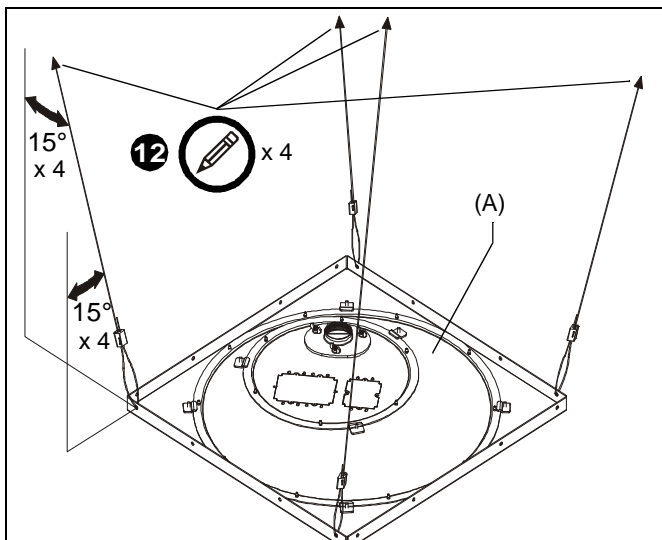

Figure 5
12. Examine ceiling structure (concrete, steel truss, or wood) above CMS445 assembly (A) to identify four support cable anchor locations. Each location should be approximately 15° outboard of support holes in tray (A). (See Figure 5) Mark locations with pencil.